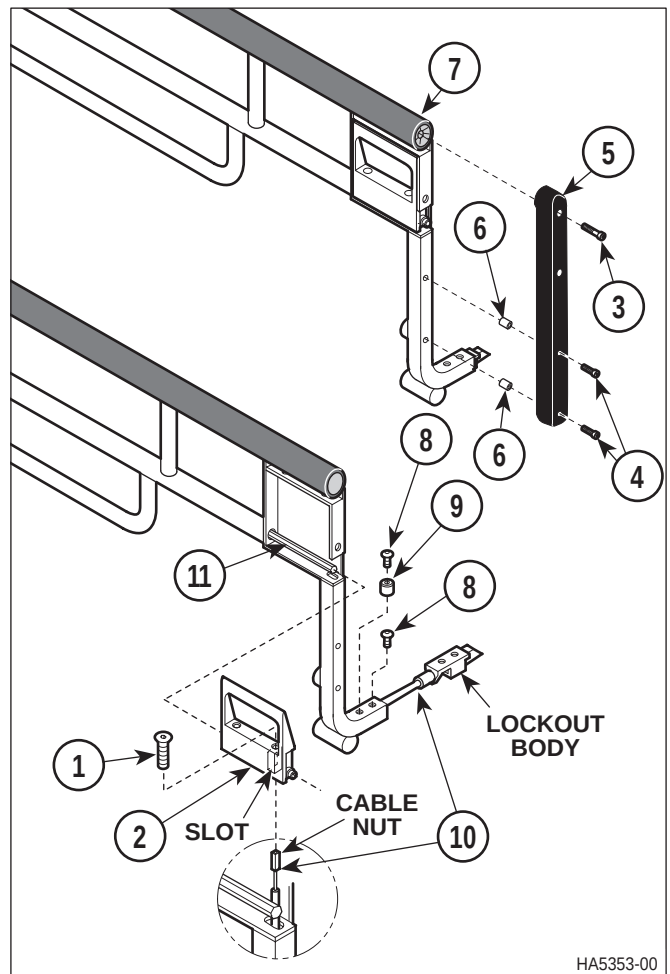

Figure 4-28. Siderail Latch Assembly Removal / Installation
- (1) Remove screw (1, Figure 4-28) from handle (2).
- (2) Remove screw (3), three screws (4), end cap (5) and two spacers (6) from siderail (7).